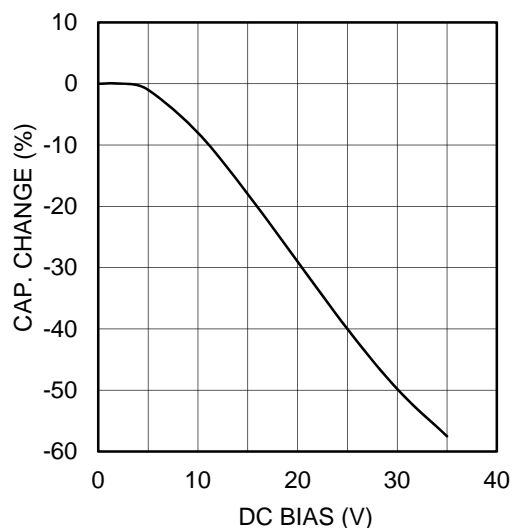

Figure 4 DC bias characteristic
\* For synchronized rectifier type power conversion, specify ON-state voltage drop of lower side element Q2 (Fig. 4).
Fig. 4: Basic circuit configuration of a buck converter using synchronous rectification power conversion. In this example, the upper switching element is in OFF-state.
Capacitance value reduces when DC bias at both sides of ceramic capacitor increases. Figure 4 shows the DC bias characteristics (by Murata Manufacturing Co.).
Next, calculate input ripple voltage by substituting each parameter to equation (2). At this point consideration for DC bias characteristic of ceramic capacitor is necessary. In this example, since the maximum voltage impressed to capacitor is 28V, 48% will be reduced from rating capacitance value as from Figure 4. Also, ESR of ceramic capacitor is 2mΩ.